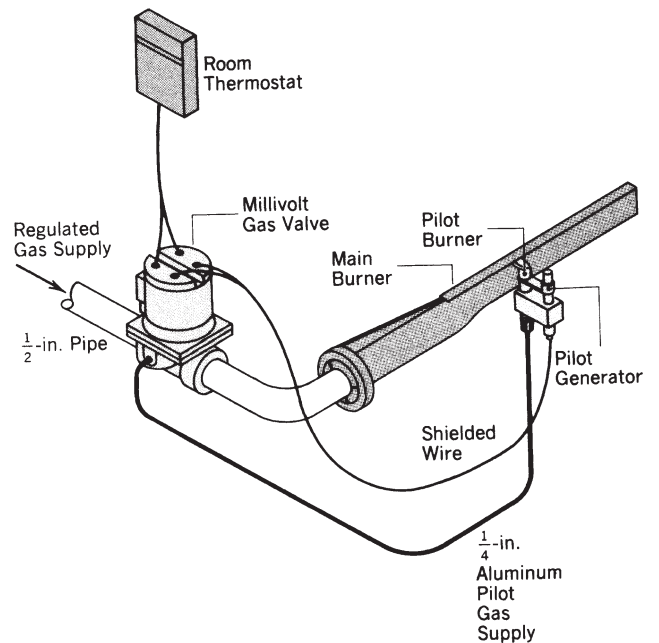

FIGURE 21-18 Millivolt system.
A millivolt furnace is one that uses a **pilot generator** (also referred to as a **powerpile**) to sense the pilot flame and provide a source of power to the millivolt gas valve (Figure 21-18). The pilot generator works on the principal that two dissimilar metals, when joined together, will generate a small voltage that is dependent on the temperature of the junction. The hotter the junction, the higher the voltage output. In a pilot generator, a number of these junctions are wired together in series to produce an output as high as 600 millivolts (less than one volt).
8. Referring to Figure 21-18, will the gas valve open if the inducer fan motor fails? Explain your answer.